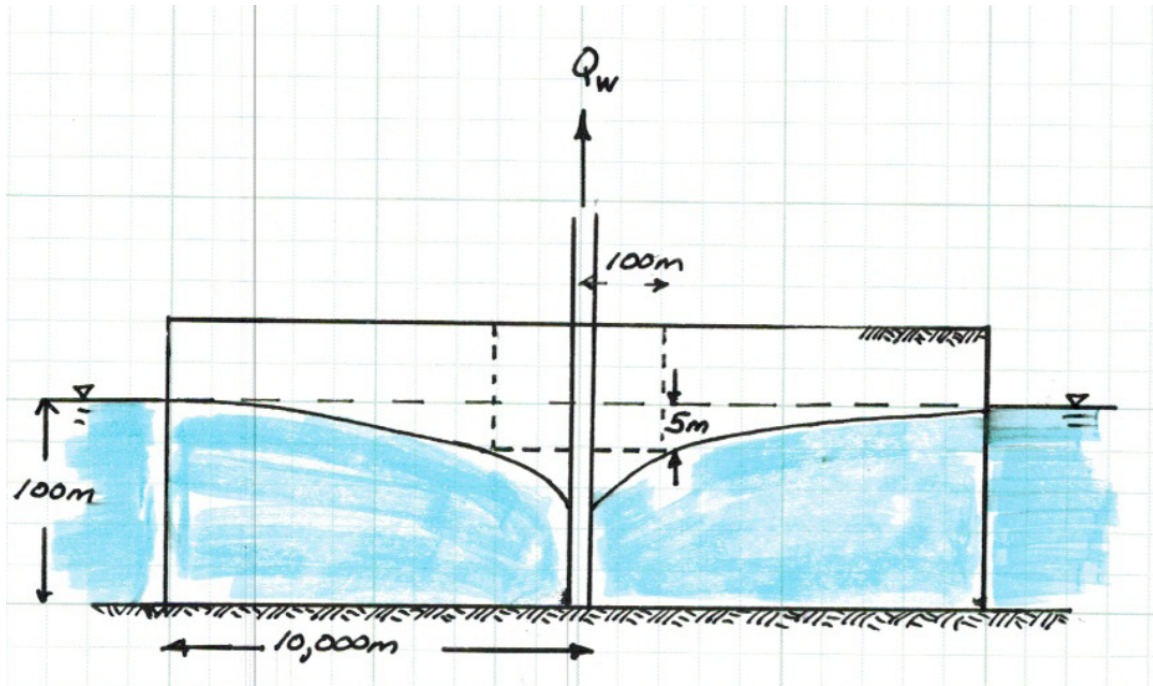

Figure 5: Pumping well in circular, unconfined aquifer.
4. A well in the center of a circular island (an unconfined aquifer) is pumped to dewater a cylindrical portion of the aquifer for constructing a foundation. The desired draw-down 100 meters from the well is 5 meters. The radial distance from the well to the surrounding water 10,000 meters. The head at the edge of the island is 100 meters. Figure 5 is a sketch of the situation. The hydraulic conductivity of the aquifer material is 1 meter/day.